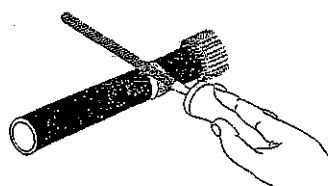
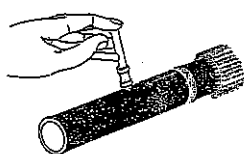

Fig.3a
Fig.3b
- 1g) For cables with Extruded Semi-Conducting Layer perform operations 1c) to 1f) but remove the semi-conducting layer using a special fixed depth scoring tool see Fig.3b. alternatively using a round file abrade an annular groove through the semi-conducting layer adjacent to the PVC binder ensuring the groove cuts through to expose the white under lying insulation see Fig.3a